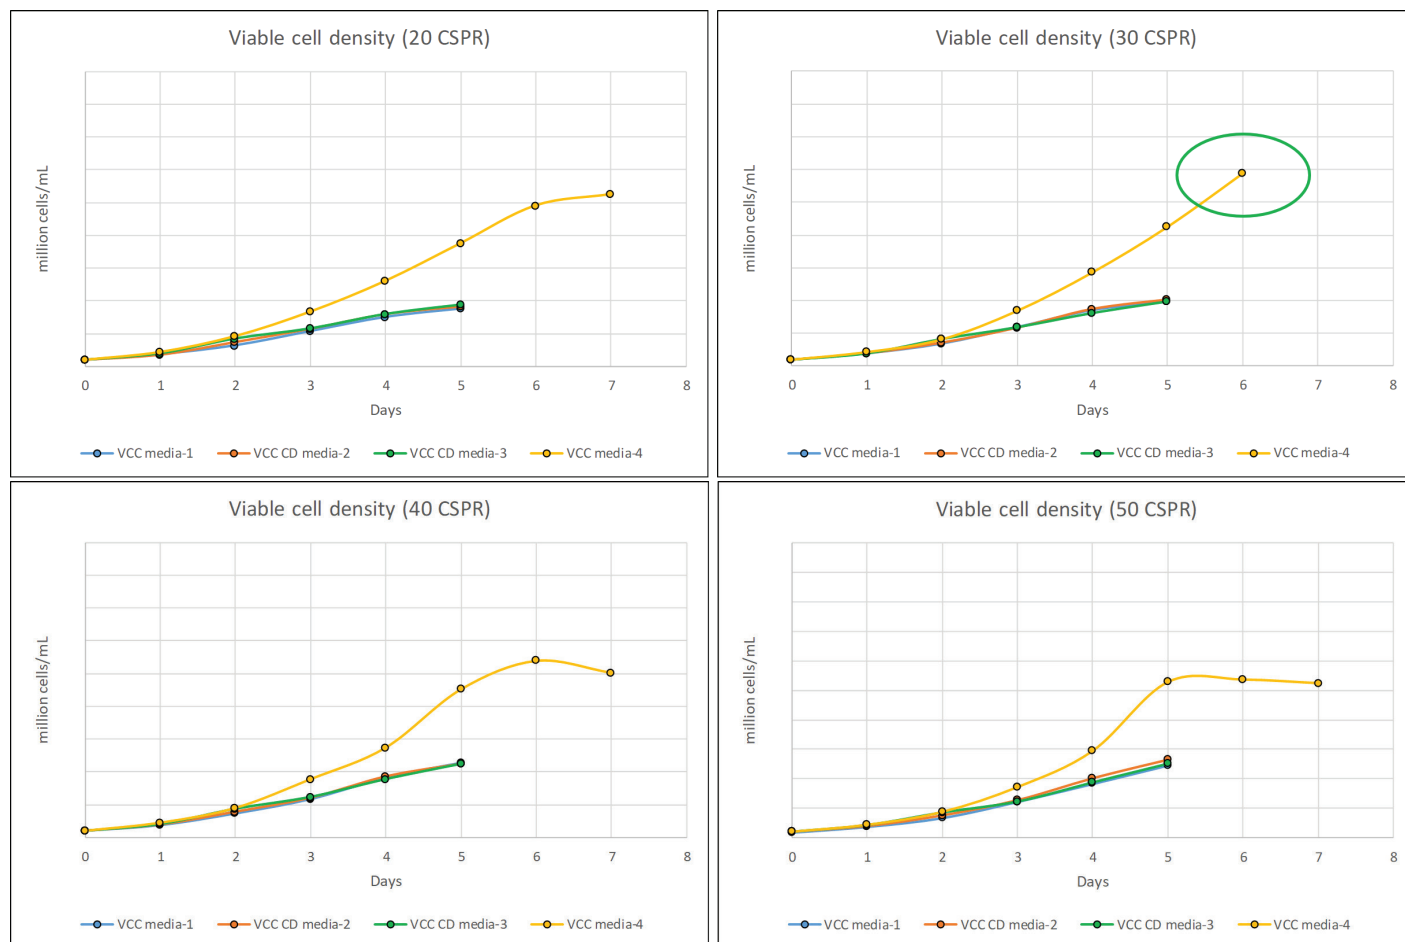

Figure 3: Cell-Specific Perfusion Rate (CSPR) screening at shake flask scale. CSPR between 20-30 (pL/cell/day) was ideal for this process.
- **Cell-Specific Perfusion Rate (CSPR) Screening:** From the CSPR screening at shake flask scale, it is observed that 20-30 (pL/cell/day) CSPR is the best fit for the process (Figure 3). This understanding is helpful to determine the optimal perfusion rate at N-1 and N stage.